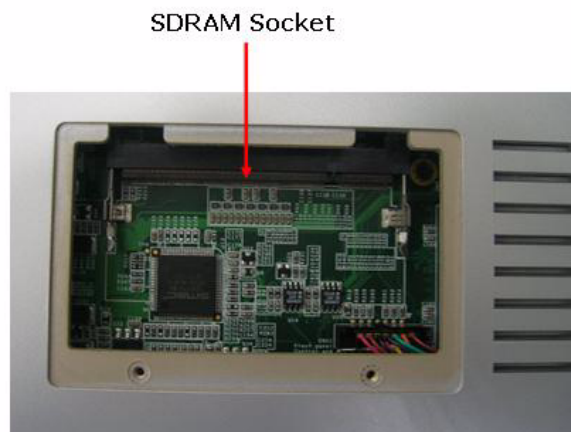

Figure 3.5 SDRAM Socket
7. Next, install an SDRAM module. Slip the memory module into the socket at a 45 degree angle. (See Figure 3.5, SDRAM installation.)